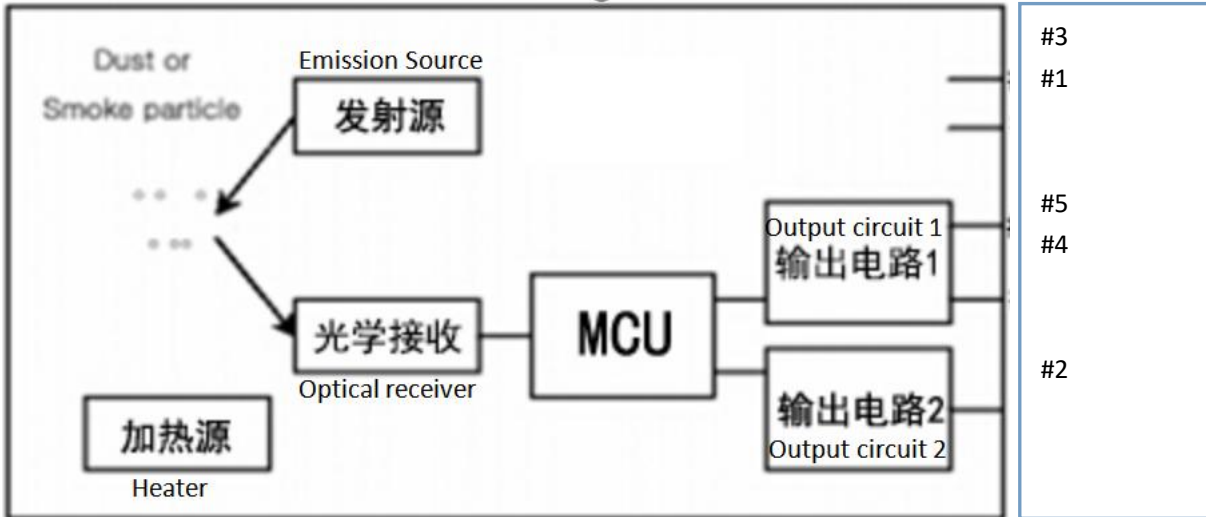

Fig 3.Principle schematic 2
1.1 Must be installed vertically. The sensor as a whole must be fixed and installed perpendicular to the horizontal plane. As shown in Figure 3, the power resistor heats the air, and the rising of the hot air drives the outside air into the optical path and removes it in time. The wrong installation method will make the sensor reading abnormal.